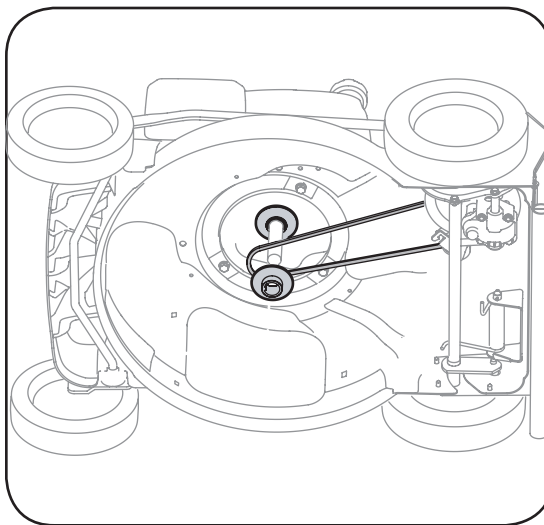

Figure 5-9: Place upper pulley on crankshaft, loop belt around crankshaft, then install the lower pulley.
6. Place upper pulley on crankshaft, loop belt around crankshaft, and then install the lower pulley. See Figure 5-9.